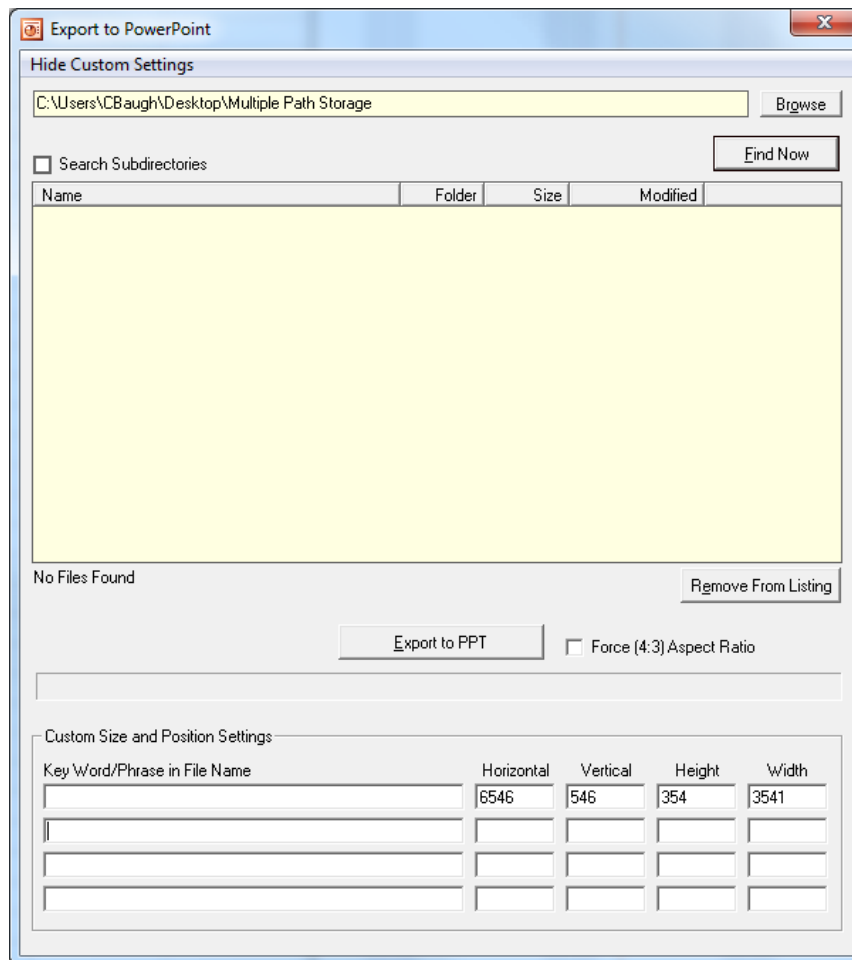

Figure 9
- 2) The export utility interface has several fields and options to enable exporting of Milestones Professional files to MS Power Point. (Figure 9)
- f. Show/Hide Custom Settings – This menu option will expand (**figure 9**) the export utility interface to include the Custom Settings area at the bottom of the interface. These settings will dictate the size and position of the image in PowerPoint.
The 'Download Update' option is enabled when a updated version of the Task Review software is available (Figure 9). Selecting this option will direct the user to the opdec website tool page where the update can be downloaded